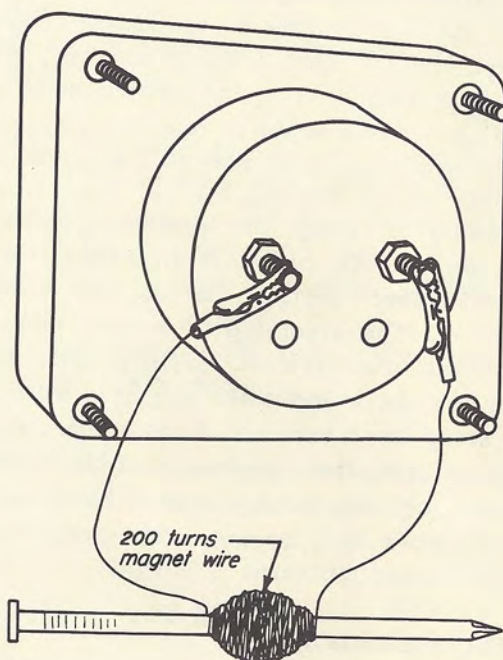

Fig. 12-13
Step 3. Clip one end of your coil to the positive terminal of the meter and the other end to the negative terminal, as shown in Fig. 12-13.